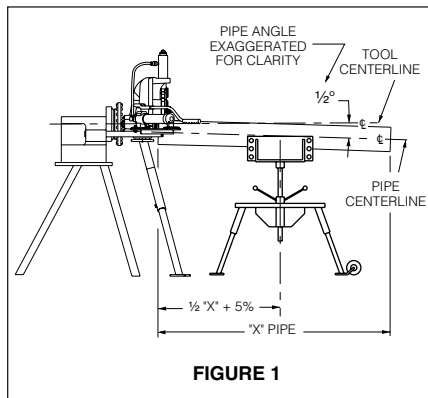

FIGURE 1
Figure 1 shows the Victaulic adjustable pipe stand (VAPS 112). VAPS 112 is suitable for 3/4" to 12" pipe. Also available is Victaulic model VAPS 224 suitable for sizes 2" to 24". See Accessories on page 27.
1. Place the pipe stand at a distance slightly beyond one half the pipe length from the tool (see Figure 1).
3. Adjust the pipe stand height to position the pipe approximately $\frac{1}{2}^\circ$ below level. See Figure 1. The pipe must be in position on the tool's lower roll while checking the below level position.